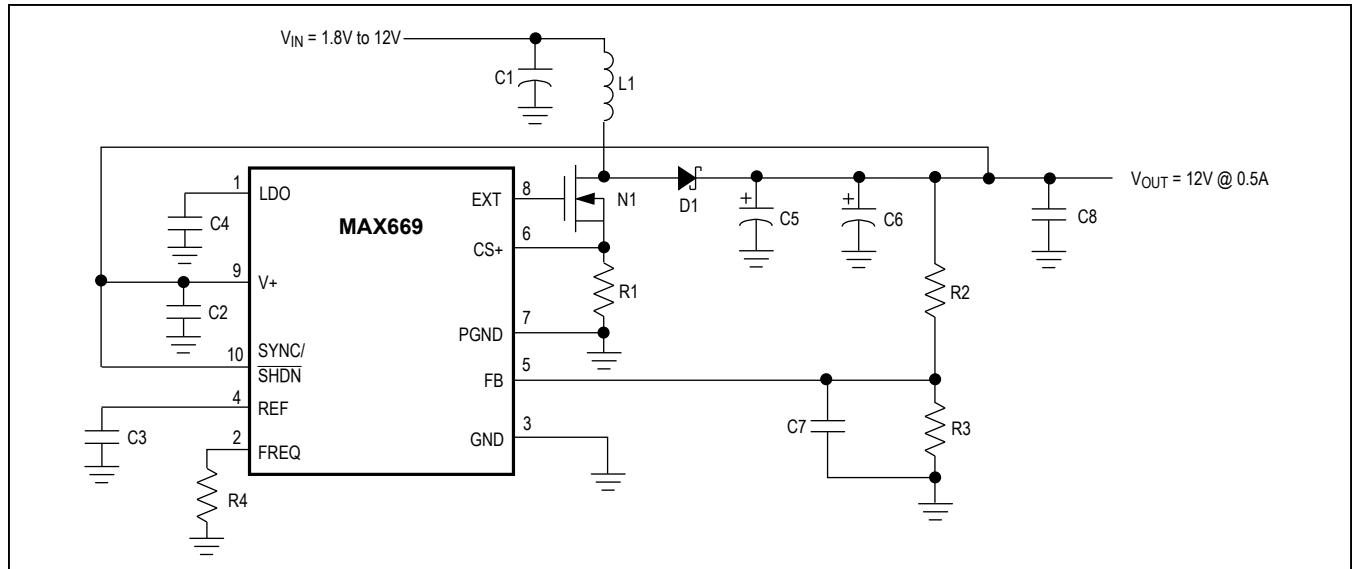
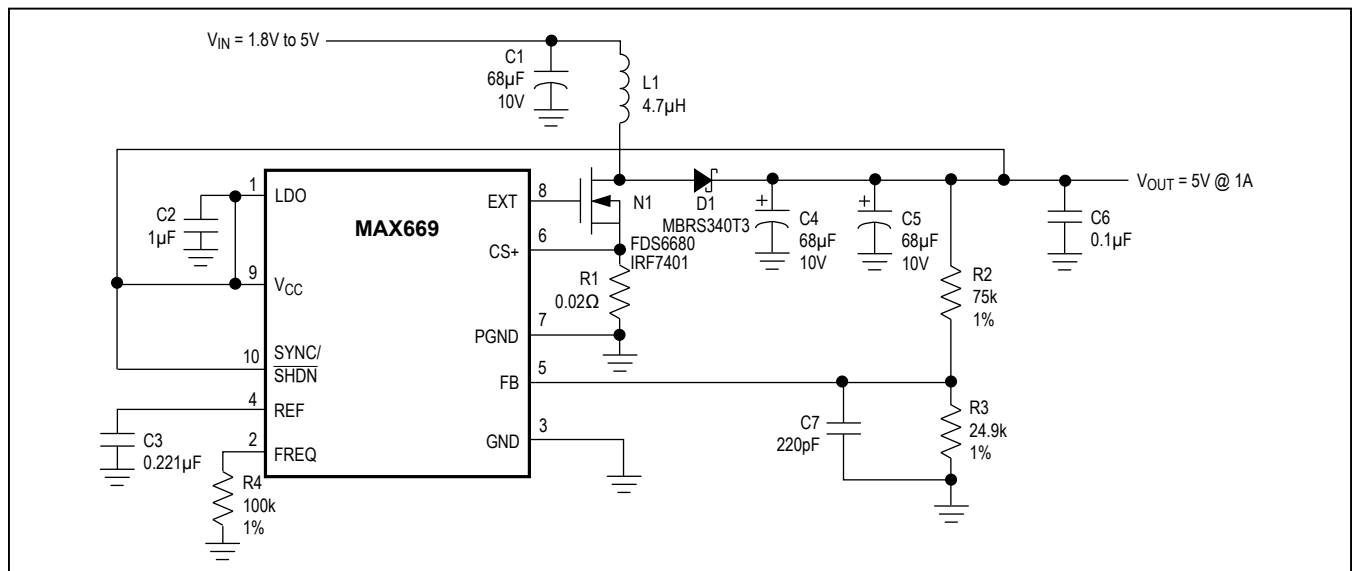
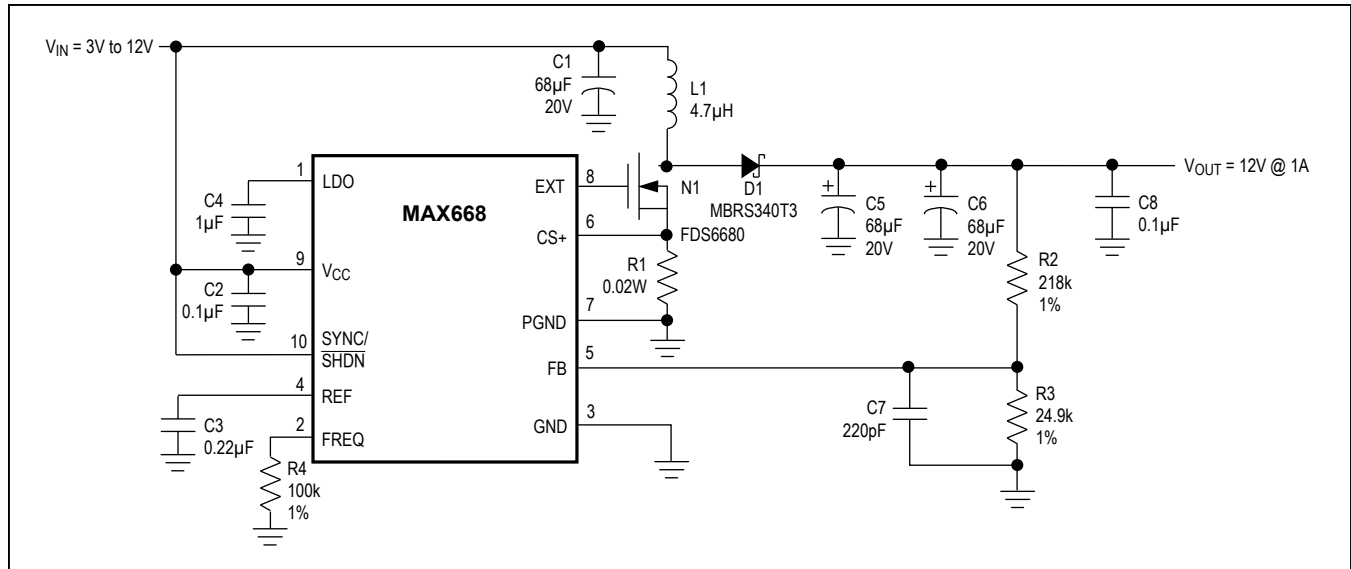
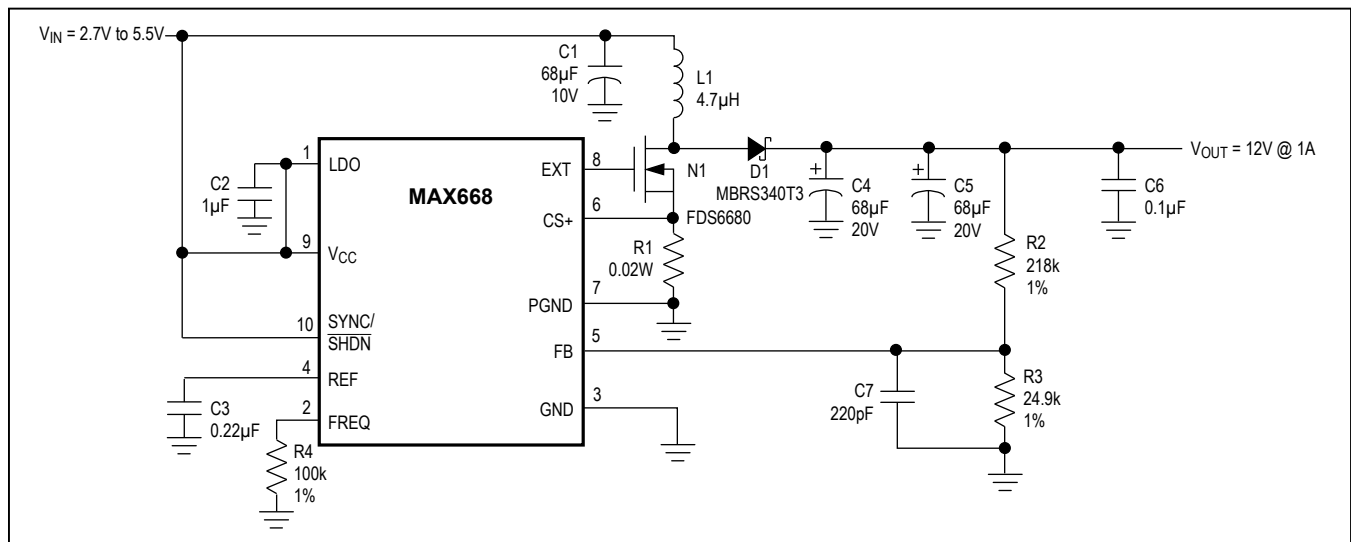

Figure 2. MAX669 High-Voltage Bootstrapped Configuration
Figure 3. MAX669 Low-Voltage Bootstrapped Configuration
Figure 4. MAX668 High-Voltage Non-Bootstrapped Configuration
Figure 5. MAX668 Low-Voltage Non-Bootstrapped Configuration
(Circuits of Figures 2, 3, 4, and 5; $T_A = +25^\circ\text{C}$; unless otherwise noted.)
(Circuits of Figures 2, 3, 4, and 5; $T_A = +25^{\circ}\text{C}$; unless otherwise noted.)
V_{CC} and LDO allow a variety of biasing connections to optimize efficiency, circuit quiescent current, and full-load start-up behavior for different input and output voltage ranges. Connections are shown in Figure 2, Figure 3, Figure 4, and Figure 5. The characteristics of each are outlined in Table 1.
With V_{CC} connected to V_{OUT} , as in Figure 2, EXT voltage swing is 5V when V_{CC} is 5.2V or more, and $V_{CC} - 0.2V$ when V_{CC} is less than 5.2V. If the output voltage does not exceed 5.5V, the on-chip regulator can be disabled by connecting V_{CC} to LDO (Figure 3). This eliminates the LDO forward drop and supplies maximum gate drive to the external FET.
With non-bootstrapped operation, the IC is powered from the input voltage (V_{IN}) or another source, such as a logic supply. Non-bootstrapped operation (Figure 4) is recommended (but not required) for input voltages above 5V, since the EXT amplitude (limited to 5V by LDO) at this voltage range is no higher than it would be with bootstrapped operation. Note that non-bootstrapped operation is *required* if the output voltage exceeds 28V, since this level is too high to safely connect to V_{CC} . Also note that **only the MAX668 can be used with non-bootstrapped operation.**
If the input voltage does not exceed 5.5V, the on-chip regulator can be disabled by connecting V_{CC} to LDO (Figure 5). This eliminates the regulator forward drop and supplies the maximum gate drive to the external FET for lowest on-resistance. Disabling the regulator also reduces the non-bootstrapped minimum input voltage from 3V to 2.7V.
* For standard step-up DC-DC circuits (as in Figures 2, 3, 4, and 5), regulation cannot be maintained if V_{IN} exceeds V_{OUT} . SEPIC and transformer-based circuits do not have this limitation.
The output voltage is set by two external resistors (R_2 and R_3 , Figure 2, Figure 3, Figure 4, and Figure 5). First select a value for R_3 in the 10k Ω to 1M Ω range. R_2 is then given by:
where $R2$ and $R3$ are the feedback resistors (Figure 2, Figure 3, Figure 4, and Figure 5). If the calculated value for C_{FB} results in a non-standard capacitance value, values from 0.5 C_{FB} to 1.5 C_{FB} will also provide sufficient compensation.
In non-bootstrapped configurations (Figure 4, and Figure 5), the MAX668 can start up with any combination of output load and input voltage at which it can operate when already started. In other words, there are no special limitations to start up in non-bootstrapped circuits.
Figure 5 shows the MAX668 operating in a 5V to 12V boost application. This circuit provides output currents of greater than 1A at a typical efficiency of 92%. The MAX668 is operated in non-bootstrapped mode to minimize the input supply current. This achieves maximum light-load efficiency. If input voltages below 5V are used, the IC should be operated in bootstrapped mode to achieve best low-voltage performance.